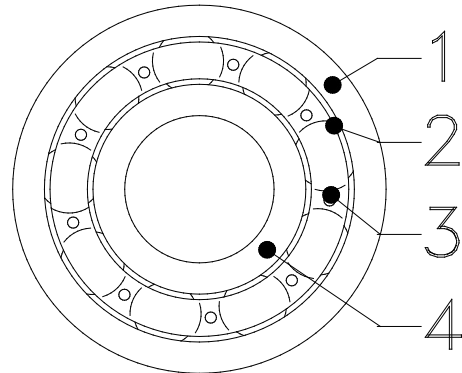

Fig. 1.3
Normally rolling bearings (fig. 1.3) consist of two rings (fig. 1 and 4) or – in case of thrust bearings – washers, with rolling elements (2), mostly retained by a cage (3), in between.